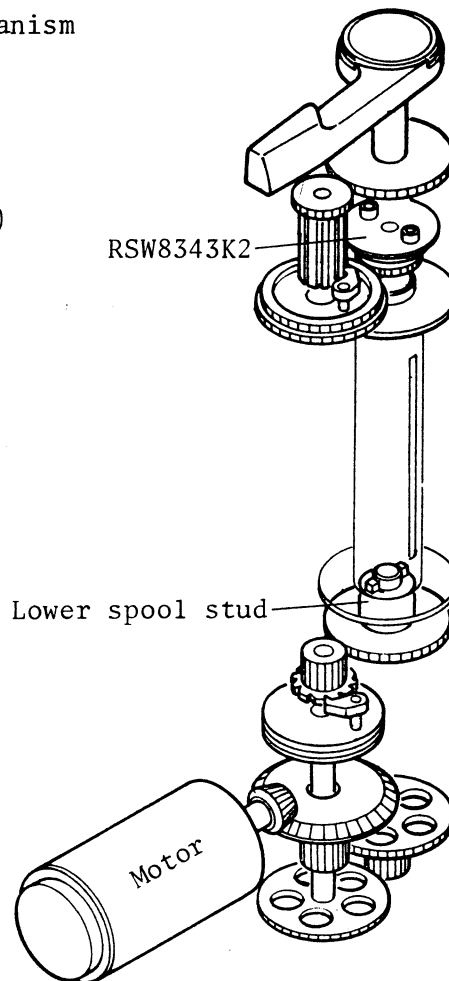

Fig.16
2. The lower take up spool stud is rotated through gears as shown in Fig. 16.